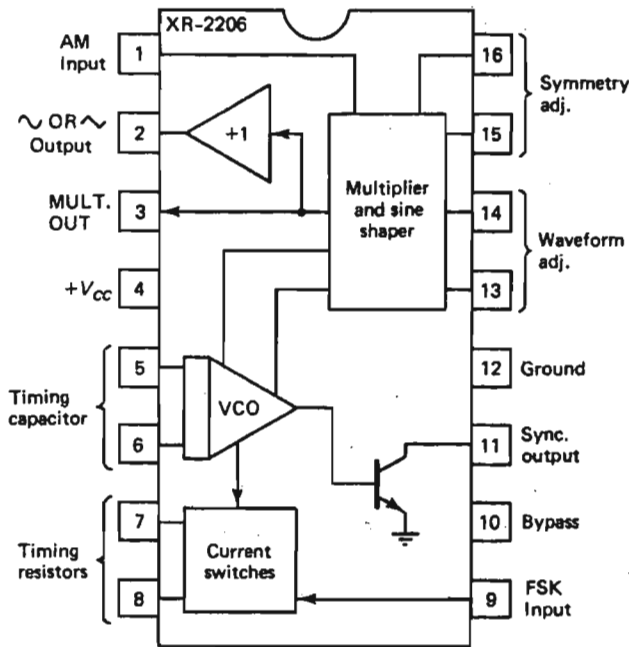

FIGURE 9-1 XR-2206 Functional block diagram
The block diagram for the XR-2206 function generator chip is shown in Figure 9-1. The XR-2206 comprises four functional blocks: a voltage-controlled oscillator, an analog multiplier and sine shaper, a unity gain buffer amplifier, and a set of current switches.
1. Construct the function generator circuit shown in Figure 9-1 (note that pin 9 open circuited).